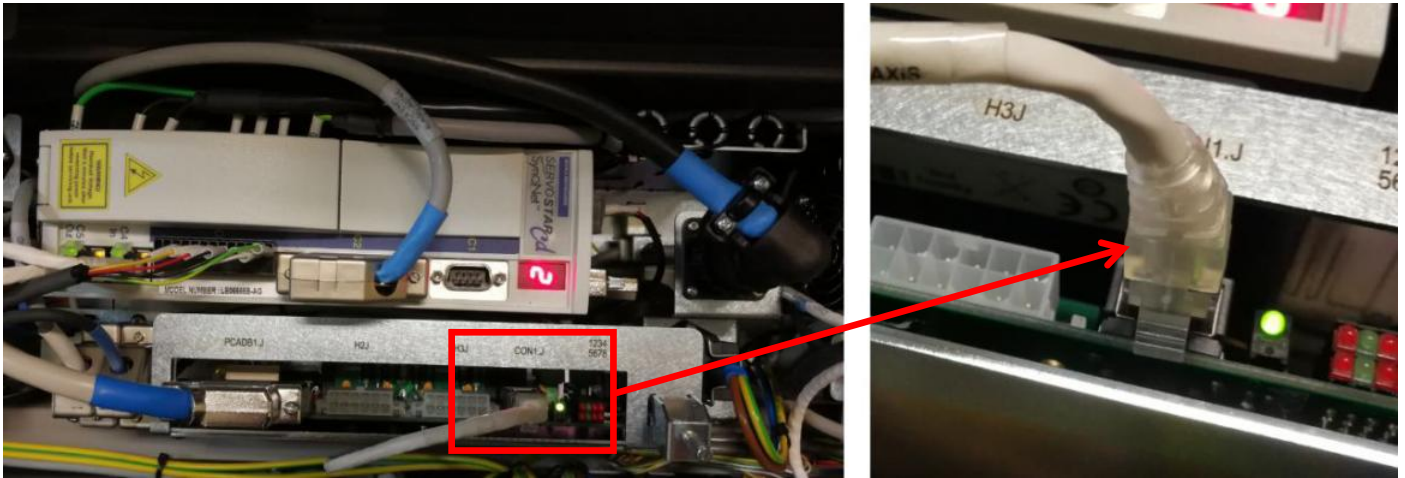

Figure 9
12. Disconnect X axis Interlock Cat5 Cable from CON1J as Figure 9.